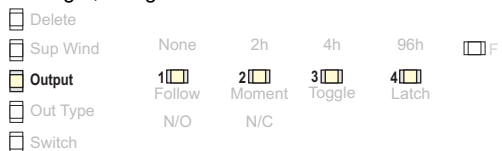

Figure 5 Select the output number
- Use the advance button to select the output number (Fig. 5).